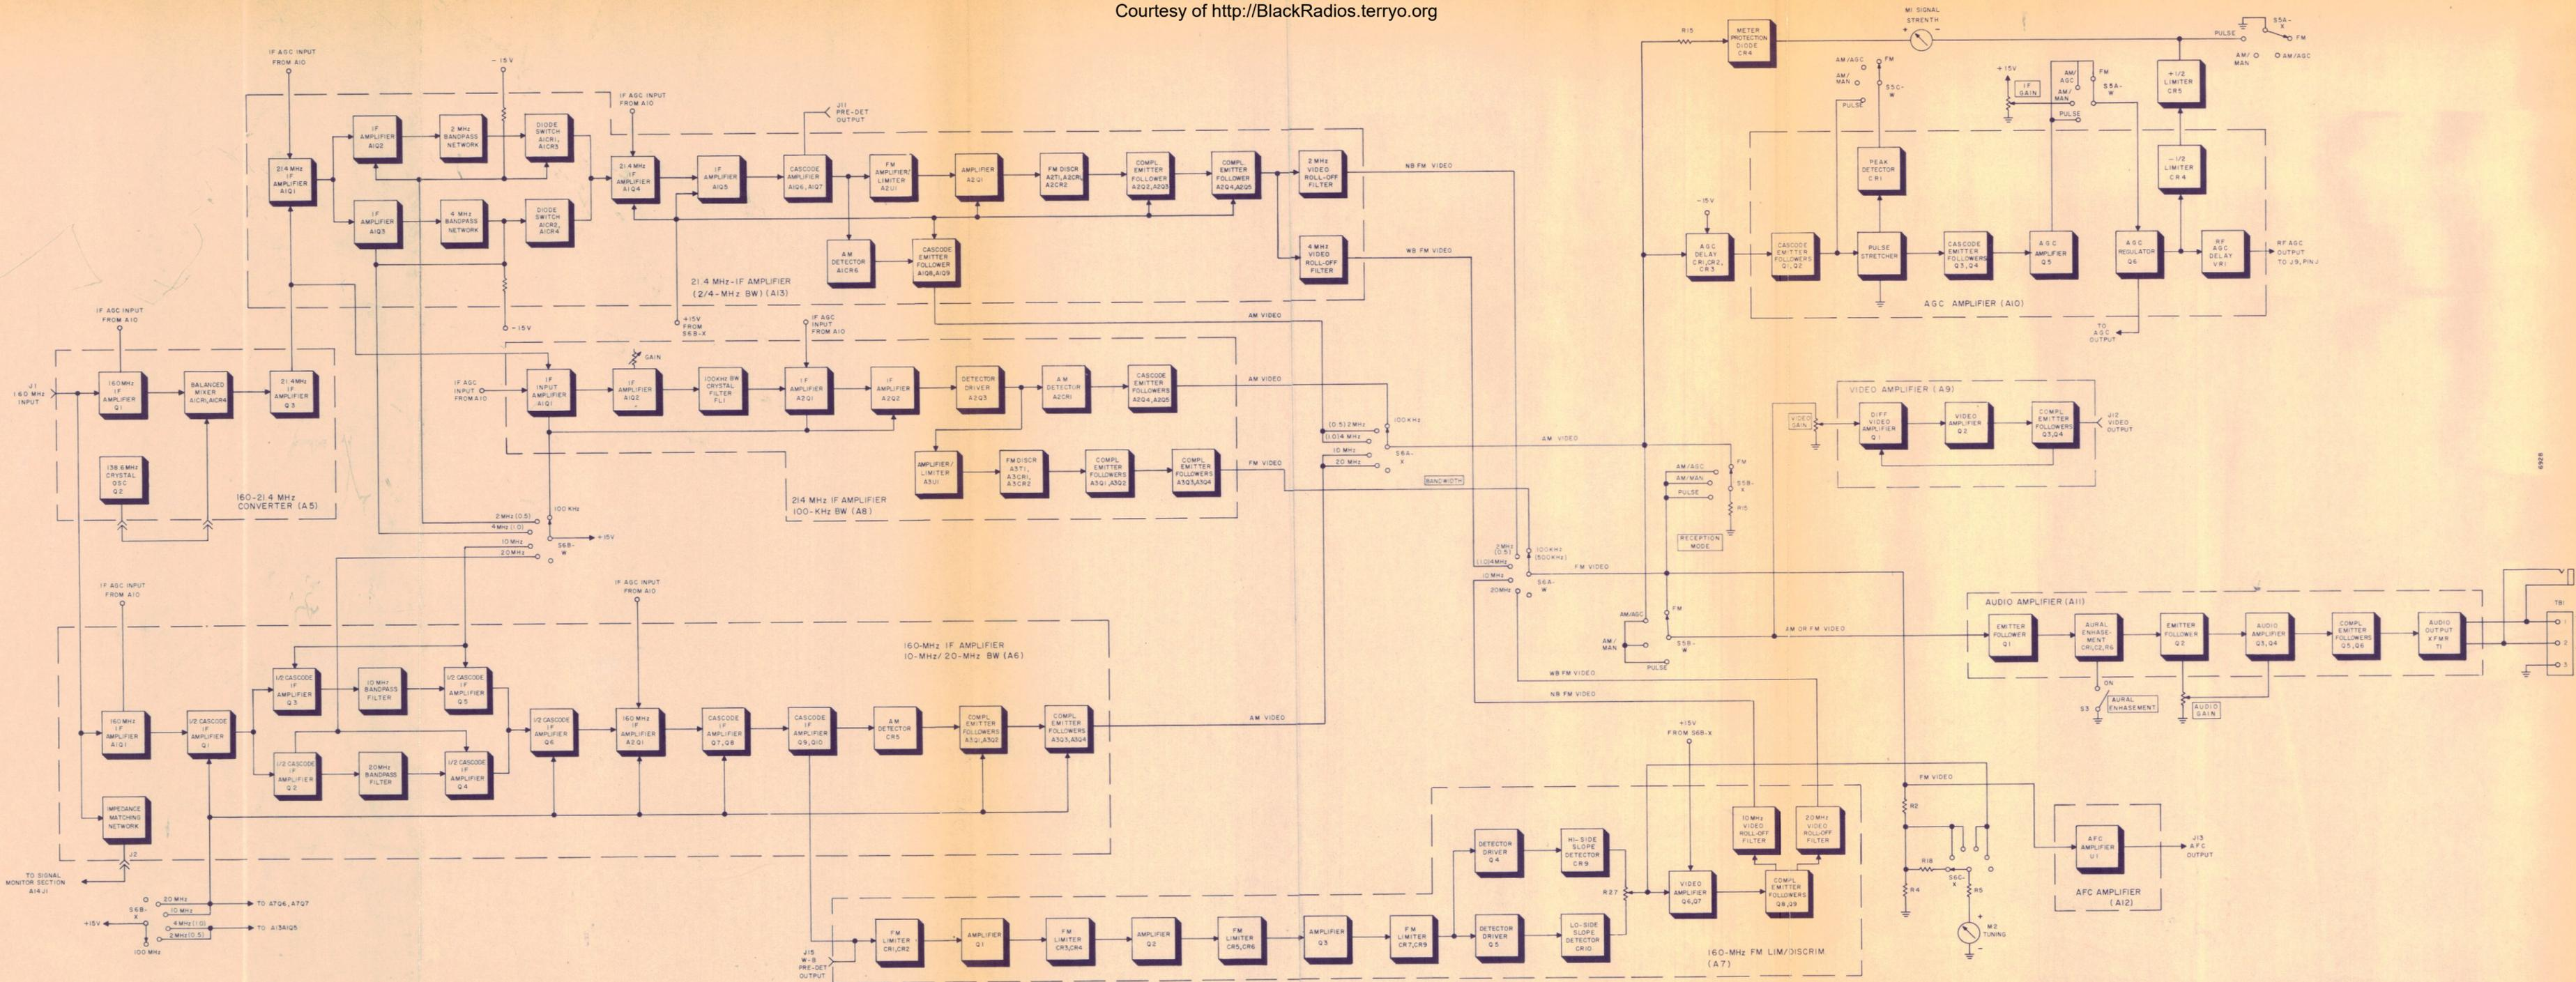

FIGURE 2-1a. TYPES DM-II2 AND DM-II2-1 DEMODULATORS, FUNCTIONAL BLOCK DIAGRAM
Circuit operation in the DM-112 and DM-112-1 Demodulators is explained in the following paragraphs. The functional description is oriented to the block diagrams (Figures 2-1a and 2-1b), while the detailed circuit descriptions refer to the relevant schematics in Section VI. Note that the unit numbering method is used. Thus, the complete designator for an electrical component located on a subassembly or module includes a prefix before the usual class letter and numbers of the item (e. g., A6A1Q1; A8R2). These prefixes are included in the text only when necessary to avoid ambiguity.
2.2.1 Demodulator Section. - For the functional block diagram of the demodulator section, refer to Figure 2-1a.